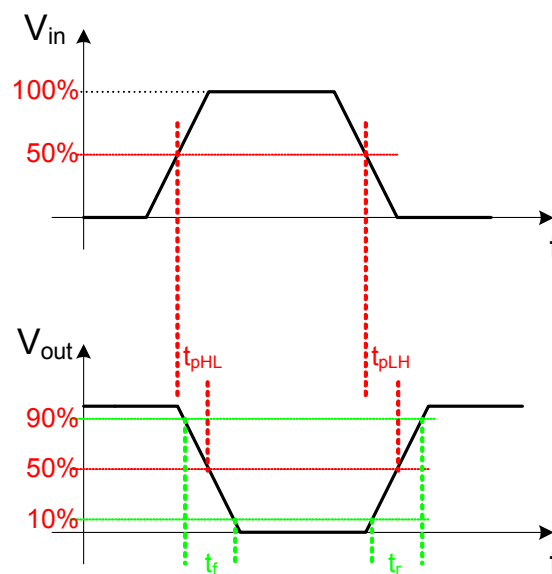

Figure 2: Definition of rise  $t_r$ , fall  $t_f$  and delay times  $t_p$ .
- **Rise  $t_r$  and fall times  $t_f$**  (between 10 % and 90 % of signal levels, see Figure 2).
- **Delay times  $t_p$**  (at 50 % of the signal level, see Figure 2).
The most important factors are the transistor parameters and capacitances, whereby the number of stages connected in series is also important (Figure 2 shows an inverter).